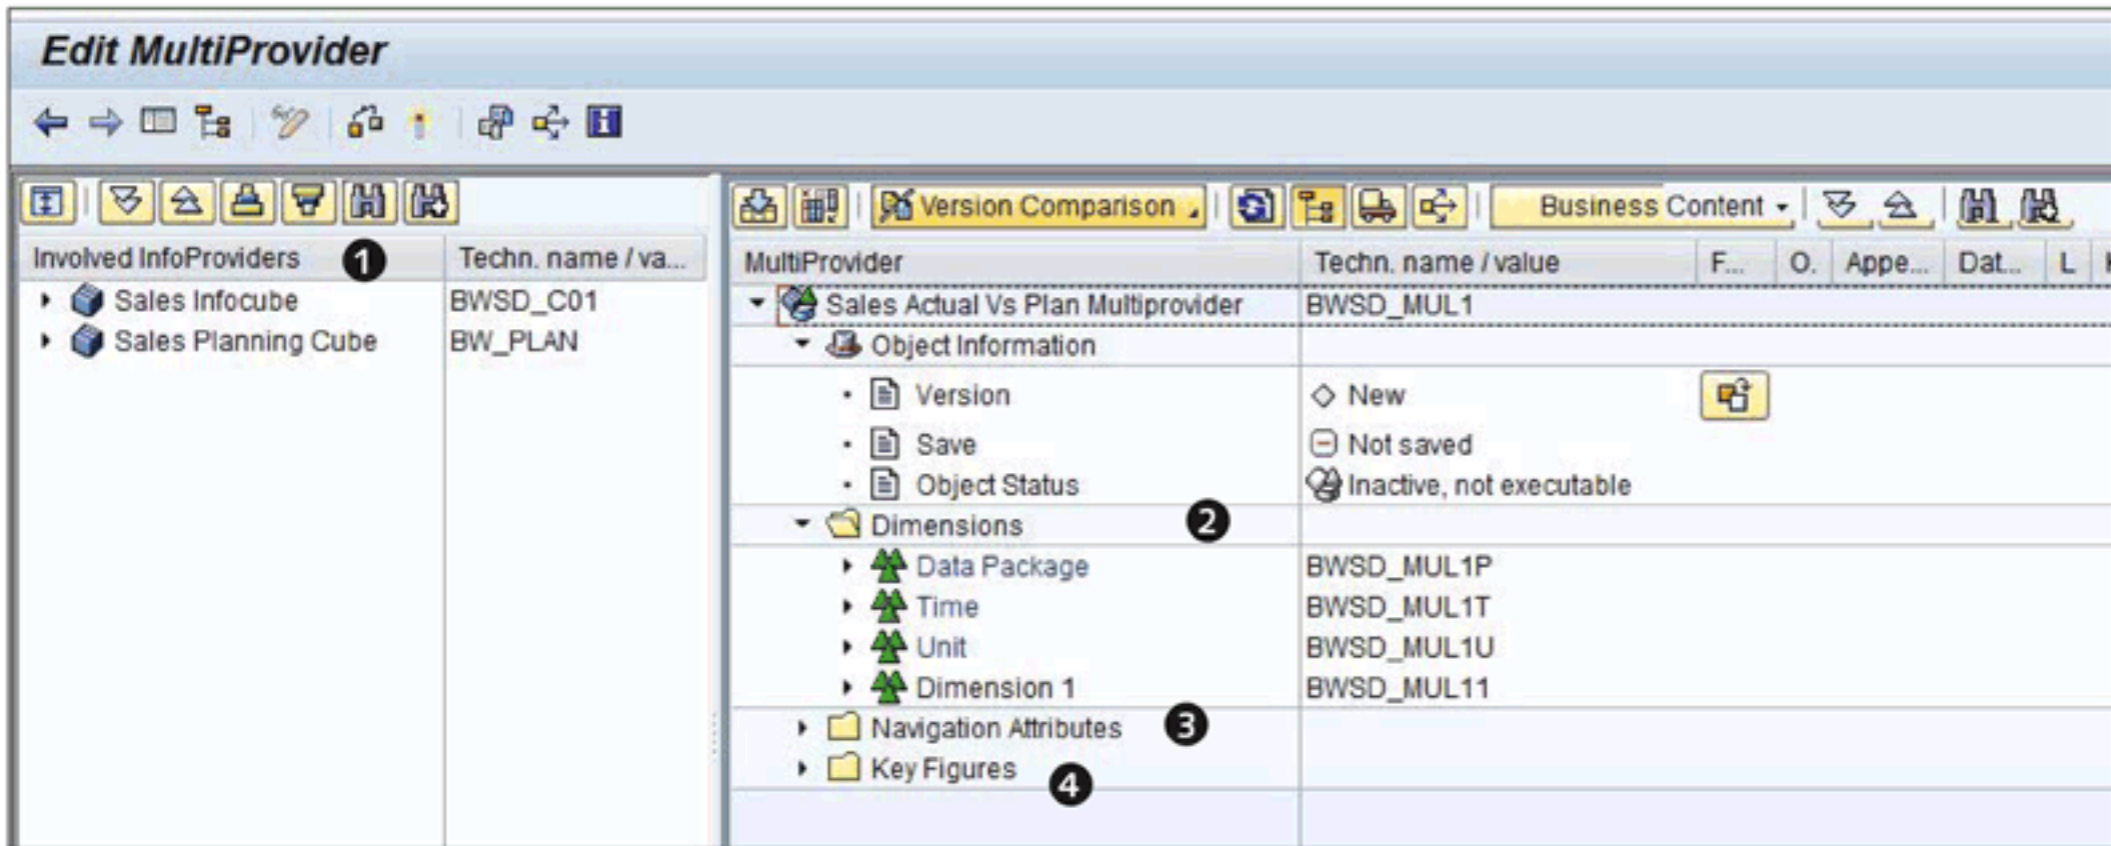

Figure 6.6 Edit MultiProvider Initial Screen
The system takes you to the EDIT MULTIPROVIDER screen, as shown in Figure 6.6. The initial definition of MultiProvider BWSD_MUL1 is shown with included InfoCubes (BWSD_C01 and BW_PLAN), as shown in 1 of Figure 6.6. Four default dimensions are shown in 2 of Figure 6.6: DATA PACKAGE, TIME, UNIT, and DIMENSION 1. This screen also offers a section to include NAVIGATION ATTRIBUTES (3) and KEY FIGURES (4).